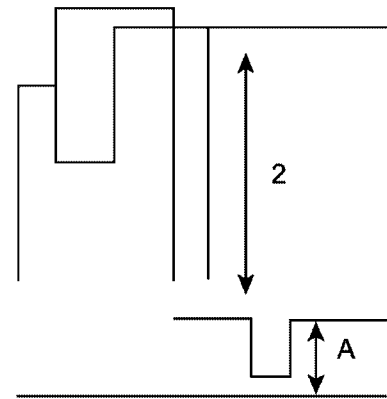

Fig. 5
3. Connect oscilloscope probe to TPL 1 (R OUT) with $10k\Omega$ series resistor and confirm waveform as in Fig. 5 is (2) $2.7 \pm 0.4V$.